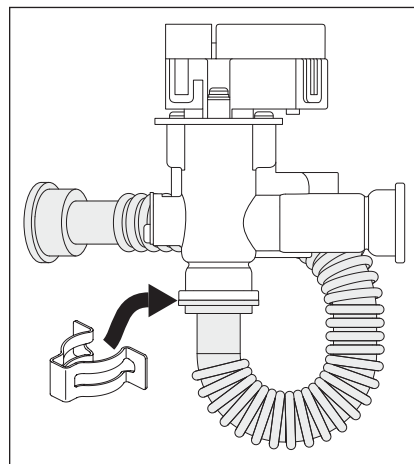

Figure 27 - Installing Flex Hose to Smart Valve
- 17** Remove new Smart Valve from service kit. Install male end of flex hose with small O-ring (14.5mm) to Smart Valve outlet as shown in Figure 27.
- 18** Remove one (1) spring clip from kit. Install spring clip over Smart Valve outlet and flex hose to secure the assembly as shown in Figure 27.